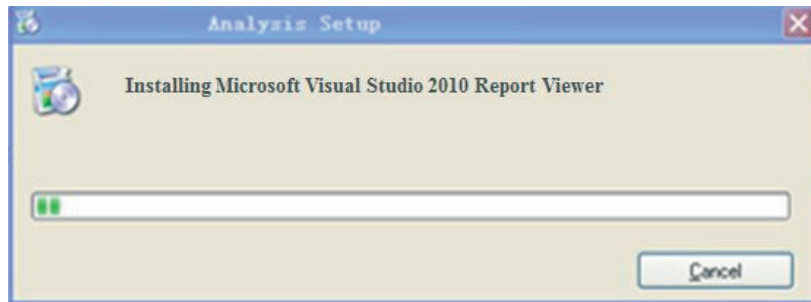

Figure 2-7
- The installation process takes about 7-10 minutes. See Figure 2-7: